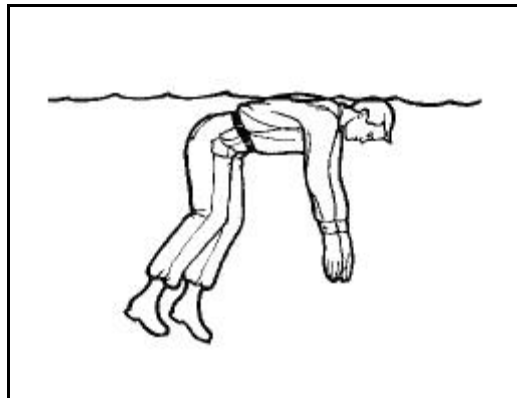

Figure 10-8. Return to Rest Position
- **Step 5--Return to Rest Position.** The swimmer relaxes his arms, and at the same time his legs move back to a dangling position. The swimmer's face goes back into the water and he "rests" once again (Figure 10-8). The cycle is then repeated.